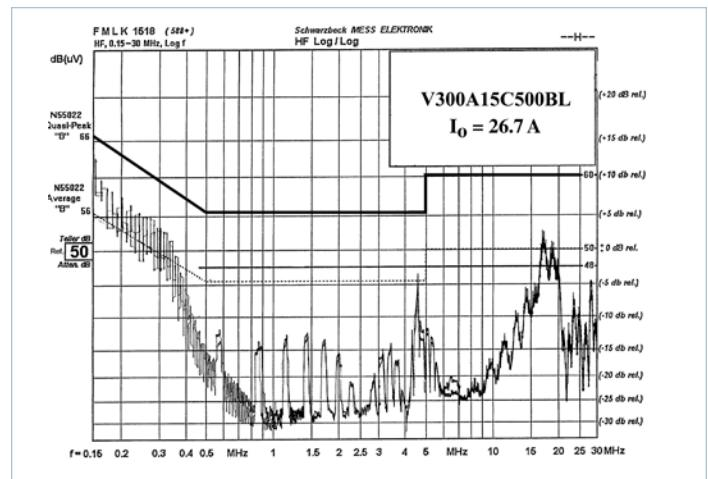

Figure 6 — Typical conducted emissions
**Filter:** (See Figure 12) An integral input filter consists of a common mode choke and Y rated capacitors (line-ground) plus two X rated capacitors (line-line). This filter configuration provides common mode and differential mode insertion loss in the frequency range between 100kHz and 30MHz as illustrated in Figure 6.